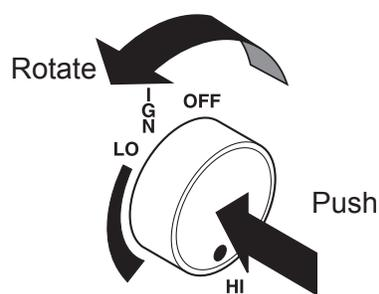

Figure 26 - HIGH Position
10. Push in control knob and turn counterclockwise  to the HIGH setting. At this location the control knob will pop out when positioned correctly. The knob can now be positioned at any position between HIGH and LOW. See *Figures 26 and 27*.